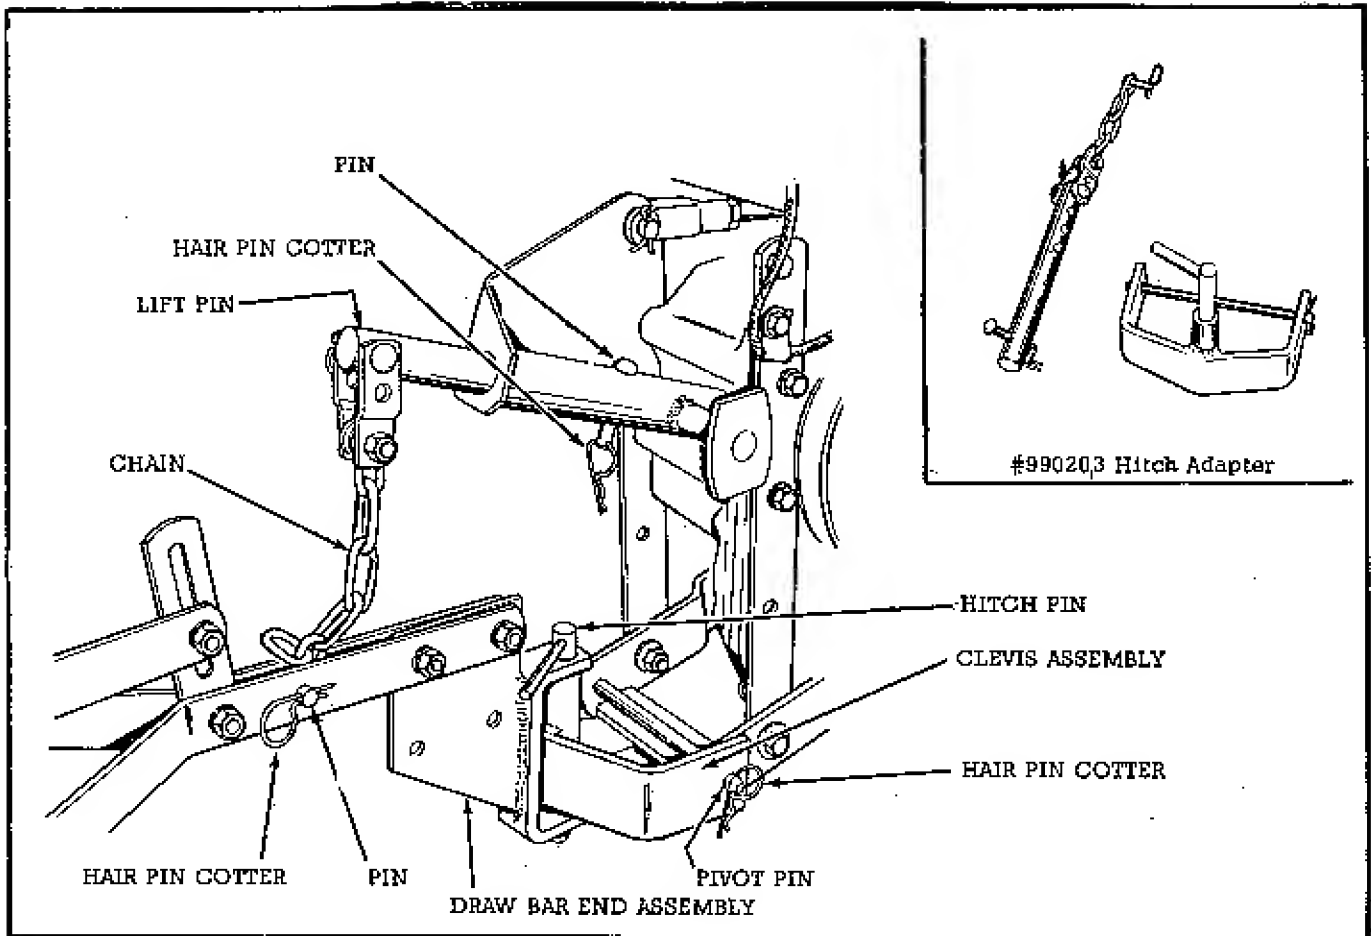

Fig. 2
3. The draw bar end assembly is fastened to the harrow draw bar by 2 carriage bolts through the upper set of holes in the draw bar end assembly, as shown in figure 2. Check to be sure that the upper set of holes are used when using the harrow on the Model 725.
To attach the disc harrow to the riding tractors, it will first be necessary to attach the clevis assembly to the tractor tow assembly, using the pivot pin and hair pin cotters. See figure 2. Mount the lift pin in place in the tube of the tractor lift and fasten with pin and hair pin cotter.
Position the disc harrow in back of the tractor and attach the draw bar end assembly to the clevis assy. by inserting the hitch pin. Connect the lift chain to the harrow at point shown in figure 2, using pin and hair pin cotter.